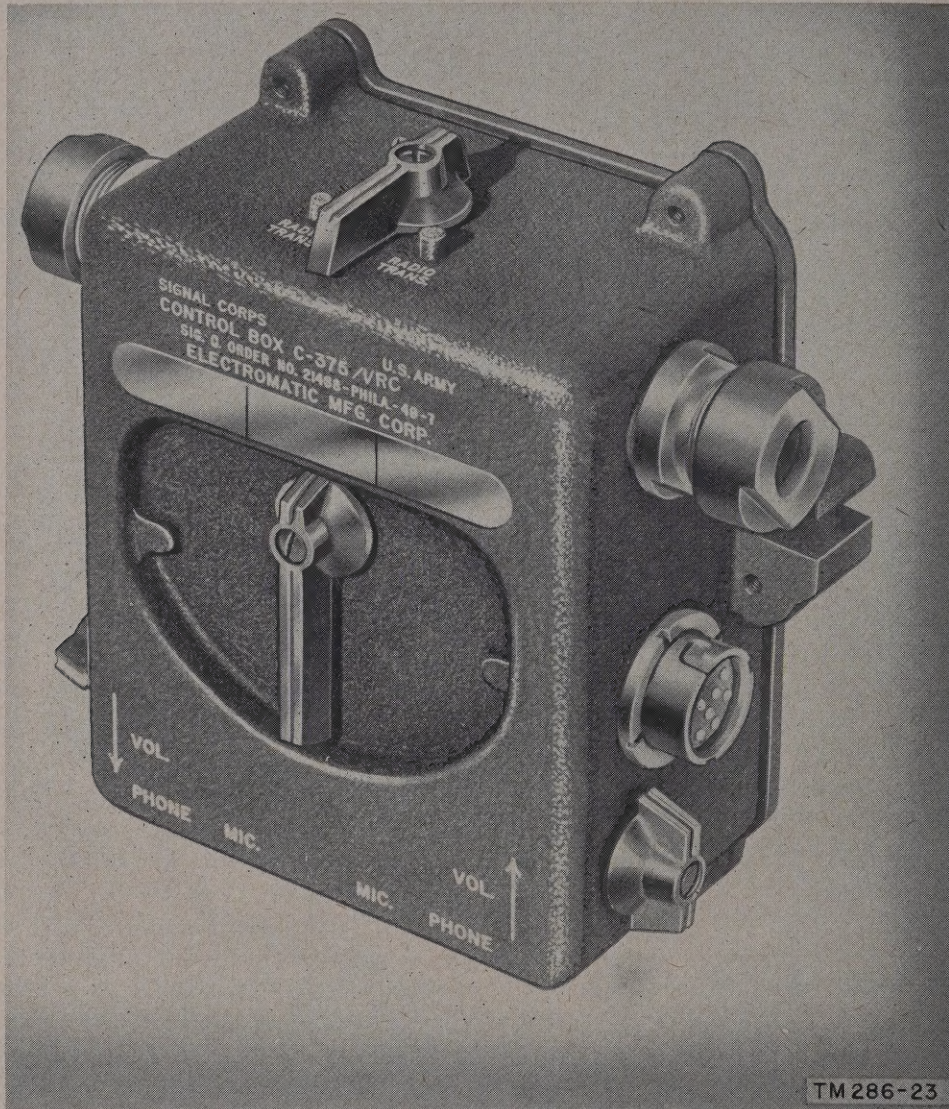

Figure 10. Control Box C-375/VRC.
a. At least one Control Box C-375/VRC (fig. 10) is used in every installation of the radio sets described in this manual. It is supplied with the basic radio set; additional units are supplied in the vehicular installation kits (par. 8).